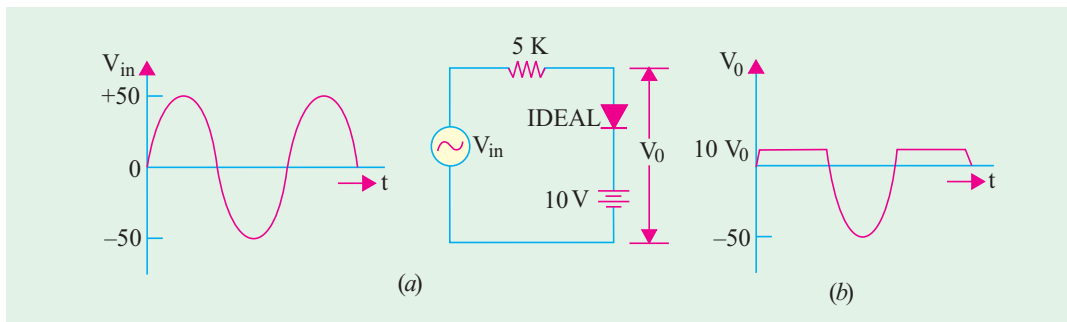

Fig. 52.21
**Example 52.13.** A sinusoidal voltage of peak value  $50\ \text{V}$  is applied to a diode as shown in Fig. 52.21. Sketch the waveform of voltage  $V_O$  treating the diode as an ideal one.
It is interesting to note that the above circuit acts as a **positive** clipper with a clipping level of 10 V *i.e.* equal to battery voltage. All positive parts of  $V_{in}$  above 10 V have been clipped off [Fig. 52.21 (b)].